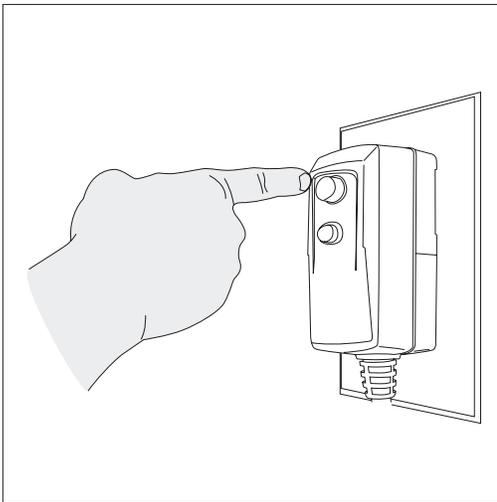

Fig. 19
- Unwind the power cord completely and plug the GFCI into a grounded 120 volt outlet. Press the 'reset' button on the GFCI box (Fig. 19). The indicator window should show a green color. This must be done each time the unit is plugged in.